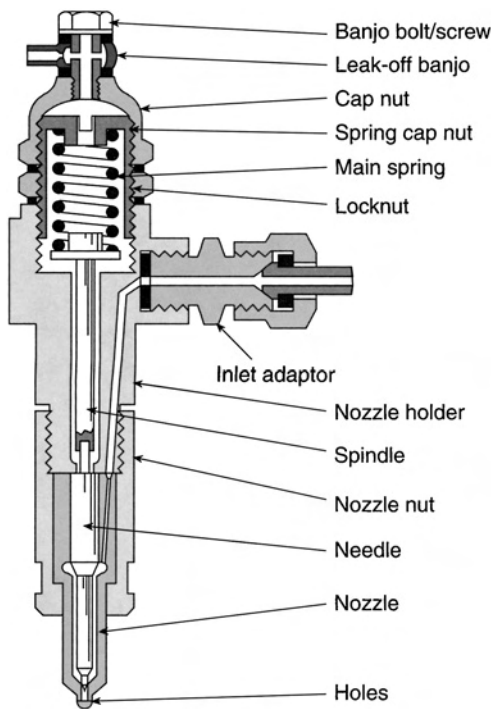

Fig. 3.40 Multi-hole injector
**Multi-hole** injectors (Fig. 3.40) have a varying number of holes drilled in the bulbous end of the nozzle beneath the needle valve seating. The actual number, size and position depends on the requirements of the engine concerned. There are usually three or four. This is the type that is fitted to the **direct injection** engine which, due to the larger combustion chamber, requires the fuel to be injected in a number of sprays at high pressure to ensure even distribution and good penetration of fuel into the rapidly moving air stream. They are often of the long stem type to give good cooling of the injector.